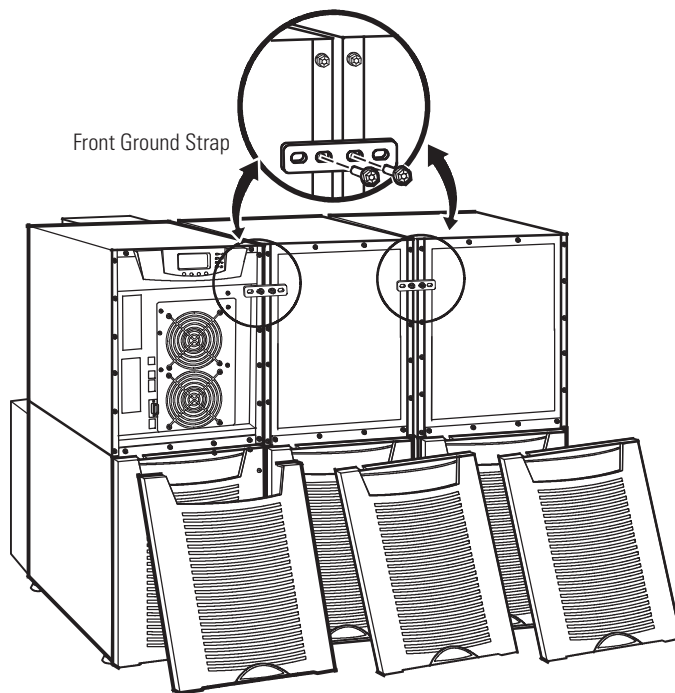

Figure 45. Front Ground Strap Installation (2-High Cabinets Shown)
9. Install the remaining ground straps between each cabinet (see Figure 45).